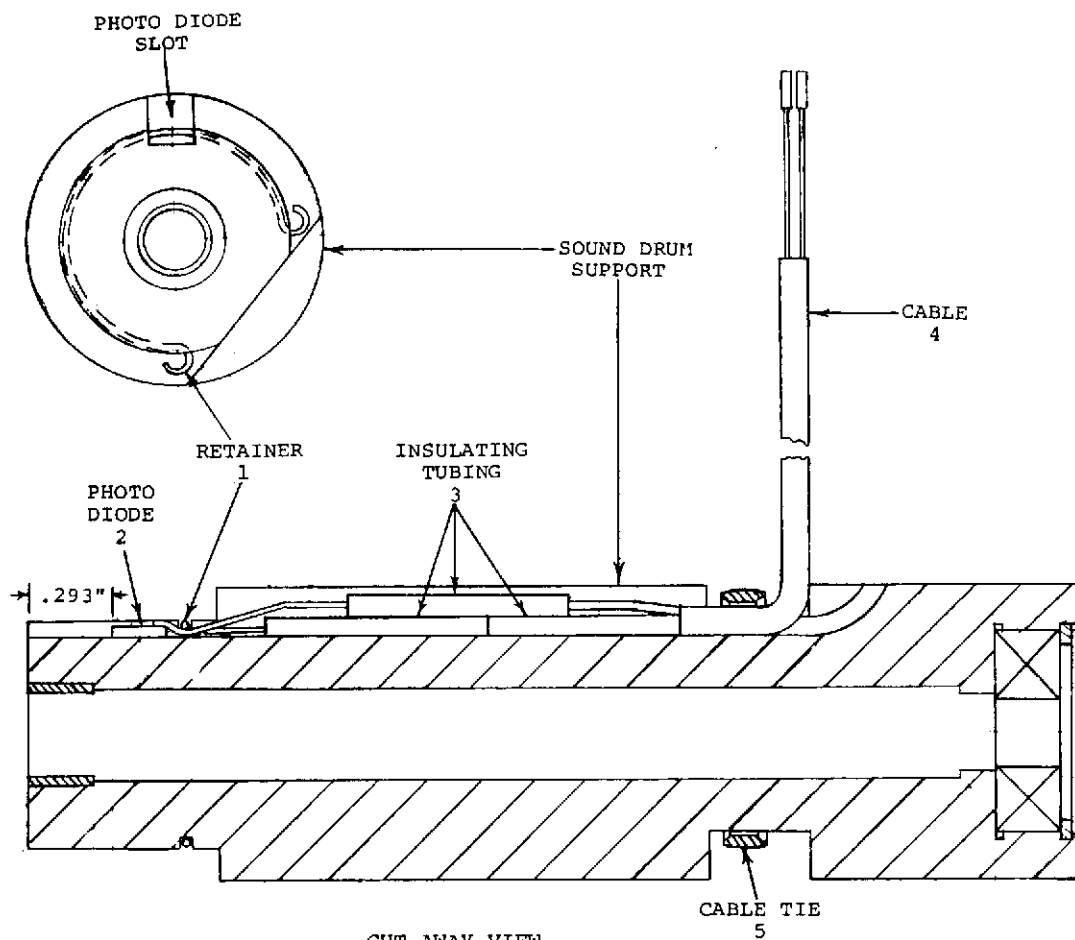

Figure 3-14. REPLACING PHOTO DIODE CHIP IN SOUND DRUM SUPPORT
**Replacing Photo Diode Chip in Sound Drum Support (Figure 3-14)**
2. Remove Retainer (1) Photo Diode (2) out of slot. Clip leads and discard Diode.
3. Remove Insulating Tubing (3) and unsolder remaining portion of Diode leads.
5. Position new Photo Diode into Slot with shiny, black surface up (red wire) and end aligned with mark made in Step 1. Assemble Retainer (1) to hold Photo Diode in place, orienting Retainer as shown in Figure 3-14. Make sure Photo Diode is perfectly flat in slot. (End of Photo Diode should be .293"--about 9/32"--from end of Sound Drum Support.) PHOTO DIODE IS VERY FRAGILE. BE VERY CAREFUL NOT TO BREAK IT!
7. Slide Insulating Tubing on leads of Photo Diode and make sure that the third piece of Insulating Tubing is on Shield of Cable (4). Solder Black lead of Photo Diode to Shield of Cable and Red lead to Center Conductor of Cable. Slide tubing over solder connections (It may be helpful to cut Cable Tie (5) so Cable can be lifted out of Slot for soldering). Dress wires into Slot and replace Cable Tie if cut.